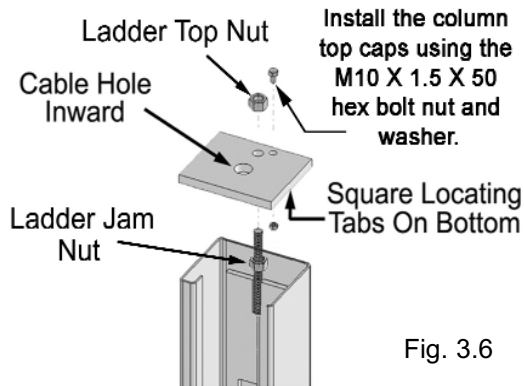

Fig. 3.6
**NOTE: Raise the ladder at least 1/2" off of the base of the column or damage to the lift will occur.** Be sure to position the cable hole INWARD. (See Fig. 3.6 -3.7)